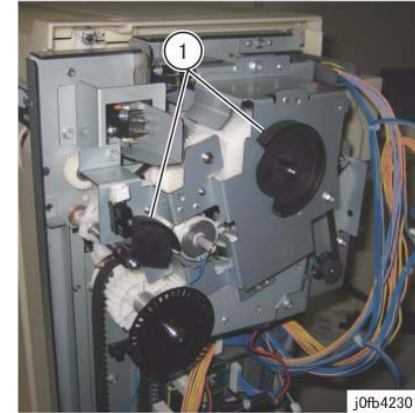

Figure 8 Actuators
11. Remove the Actuators (x2). (Figure 8)